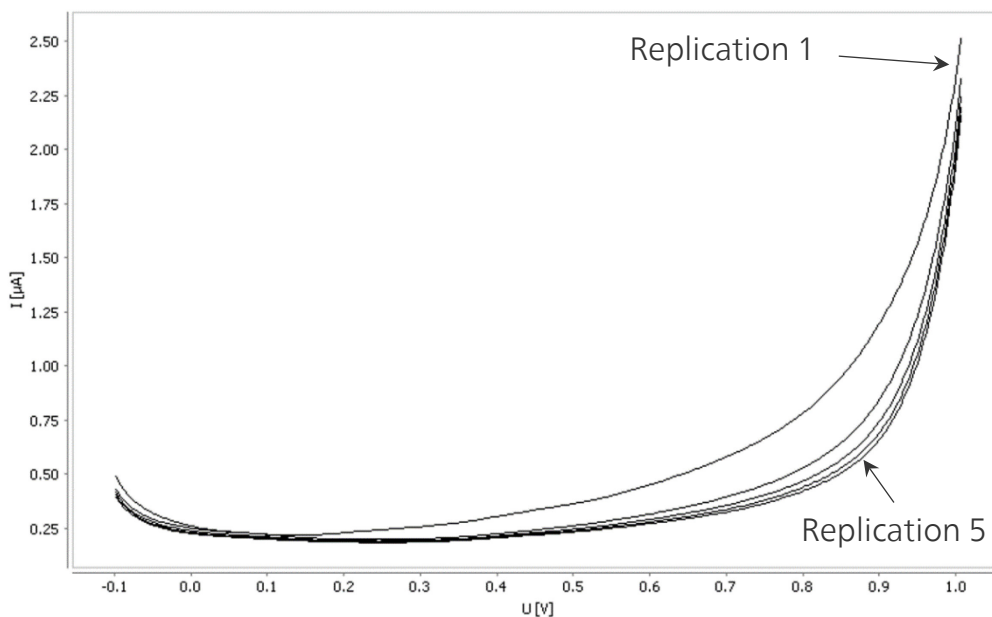

Figure 17 Example for a cleaning measurement with 5 «Cleaning cycles»
For cleaning the electrode, repeated sweeps with the differential pulse measuring technique (DP) are carried out in the potential range between  $-0.1 \text{ V}$  and  $1.0 \text{ V}$ , as e.g., in the method «Maintenance – Cleaning measurement». In this method the number of cleaning cycles can be defined in the «Run» window on the workplace (see Figure 9). Usually, 3-5 cleaning cycles are sufficient as shown in Figure 17.
The aim of the electrochemical cleaning is to obtain a background current as low as possible which is stable from one replication to the other. Figure 17 shows an example for a cleaning measurement in an alkaline electrolyte ( $c(\text{NaOH}) = 0.1 \text{ mol/L}$  in ethanol) with 5 cycles. In this